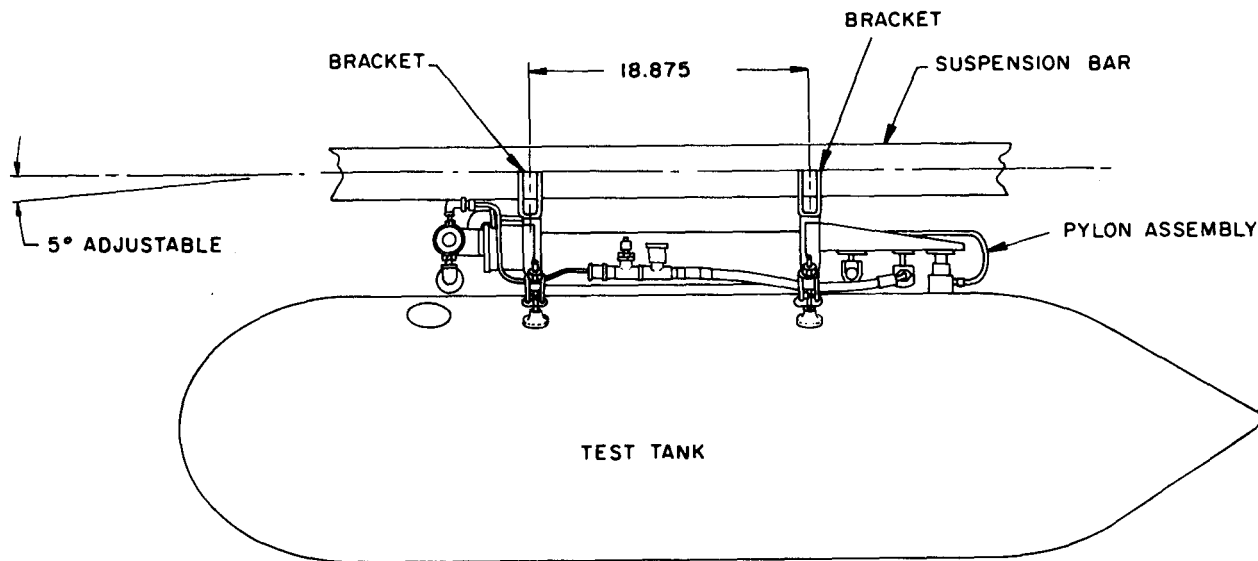

Figure 16. Final assembly functional test—mechanical setup.
#### 44. Final Assembly Test Set-Up (figs. 16 and 17)
a. Suspend pylon assembly above ground level as shown in figure 16.